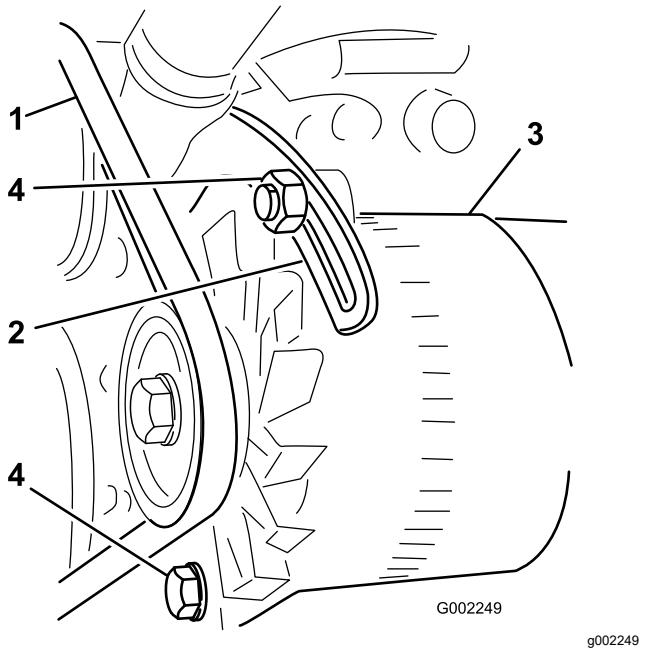

Figure 140
3. Loosen the bolt at the pivot point of the alternator; loosen the bolt that secures the alternator to the slotted brace (Figure 140).